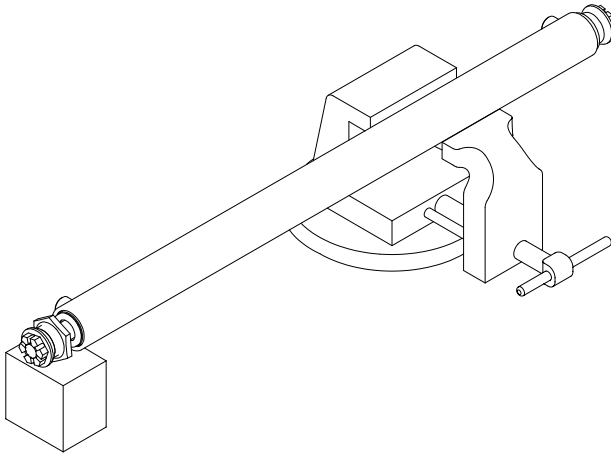

Figure 6-5, Cylinder Vise
2. Clamp the cylinder lightly at the base end in a soft jawed vise. Use a block or other support under the rod end of the cylinder. (Figure 6-5)